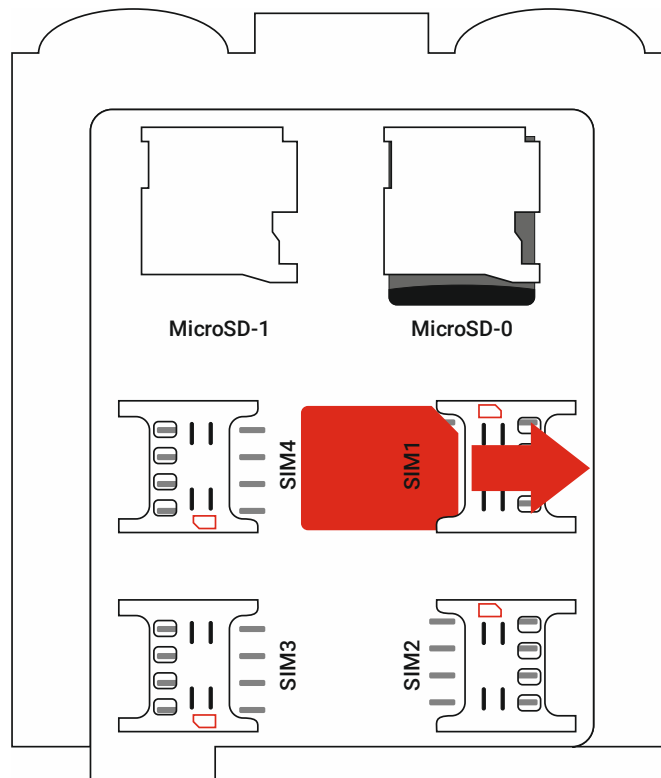

Figure 3. Elements under the cover
7. For the device operation in the VPN network, you must place the file "vpn.json"³ with the correct connection settings to an external storage device installed in a slot MicroSD-1 (see Fig. 3).
To configure the network settings (IP address, gateway, mask, DNS) you must place the file "network.json"⁵ to an external storage device installed in a slot MicroSD-1 (see Fig. 3). Before doing this, open the file with any text editor (e.g., Notepad) and enter the parameters in accordance with the configuration of your network.